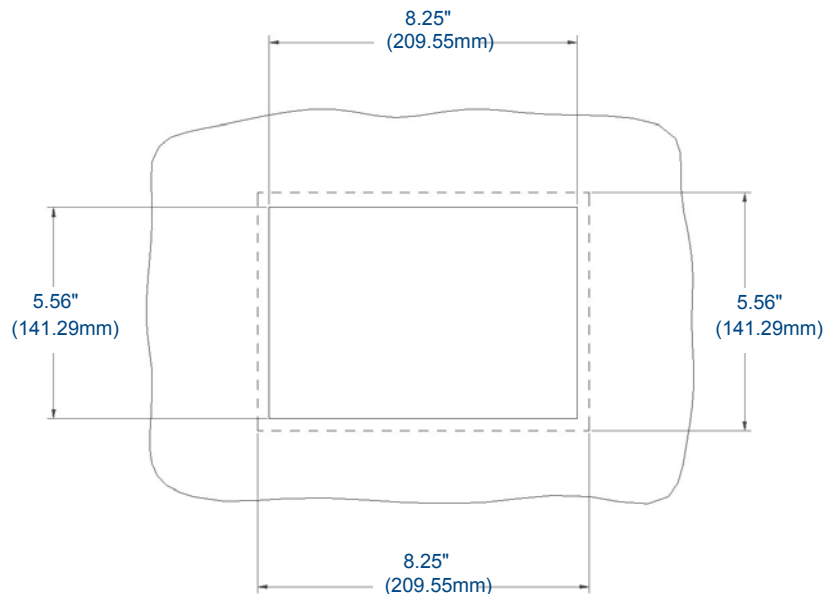

FIG. 7 Recommended cutout for plastic back box
1. Cut a hole into the wall or surface intended to hold the box. The outer lip of the back box is sized 8.69 inches (220.66mm) long and 6.0 inches (152.4mm) high, so the hole should be at least 1/4" (6.4mm) smaller in each dimension (FIG. 7).